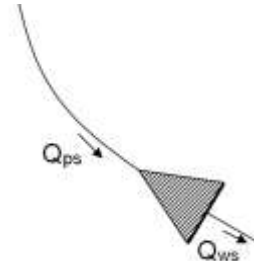

Figure Q1. Reservoir schematic
Water is pumped from a pumping station (PS) into a service reservoir (Figure Q1) from which it supplies a water distribution district following a 24-hour demand pattern (Q_{ws}). The pumping station consists of two fixed-speed pumps delivering water directly to the reservoir. Table Q1a gives the possible pump combinations and respective flows into the reservoir (assuming head losses are accounted for):